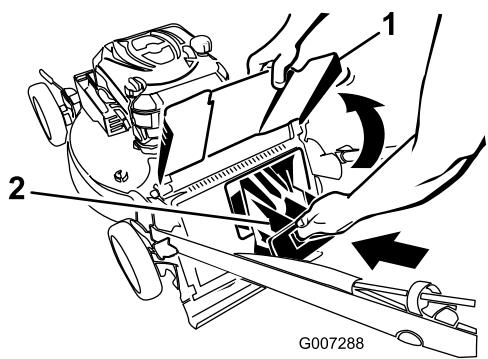
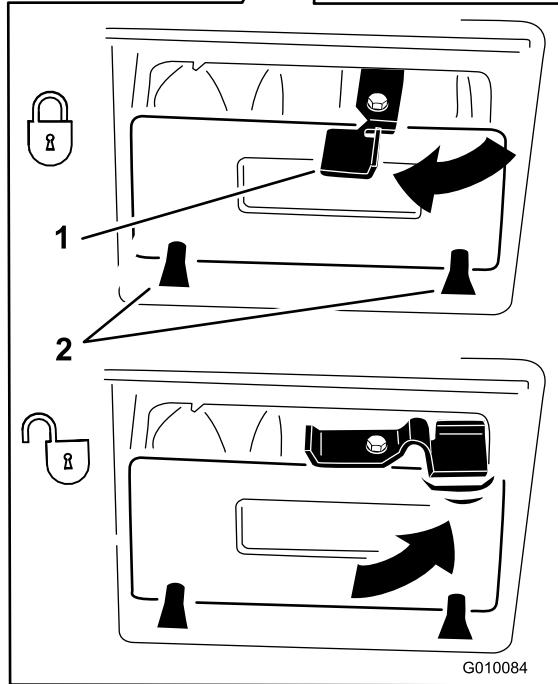

Figure 18
Figure 19
**Important:** Ensure that the rear-discharge plug is locked in place. To lock the plug: Raise the rear-discharge deflector (Figure 18), firmly push the plug in until it snaps into place behind the tabs, and rotate the lever on the plug to the left (Figure 19).
**Note:** To unlock the plug, rotate the lever on the plug to the right (Figure 19).